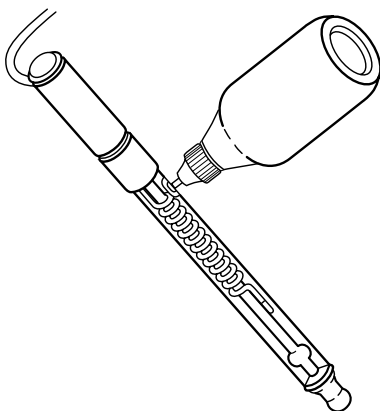

Figure 2: Filling the ROSS Sure-Flow Electrode
3. Uncover filling hole by removing plastic sleeve and add ROSS™ Internal Filling Solution, Orion 810007, to electrode. See **Figure 2**.